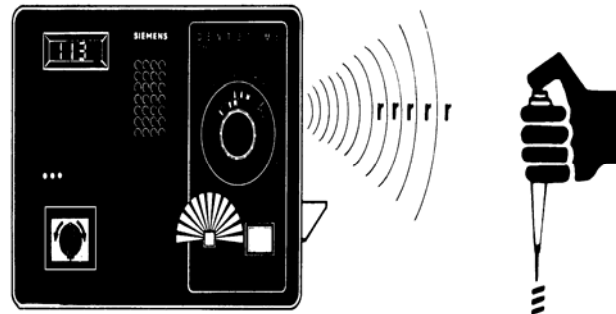

Figure 3-17. Exposure to test for blank radiographs.
- (d) Make an exposure. Refer to figure 3-17.